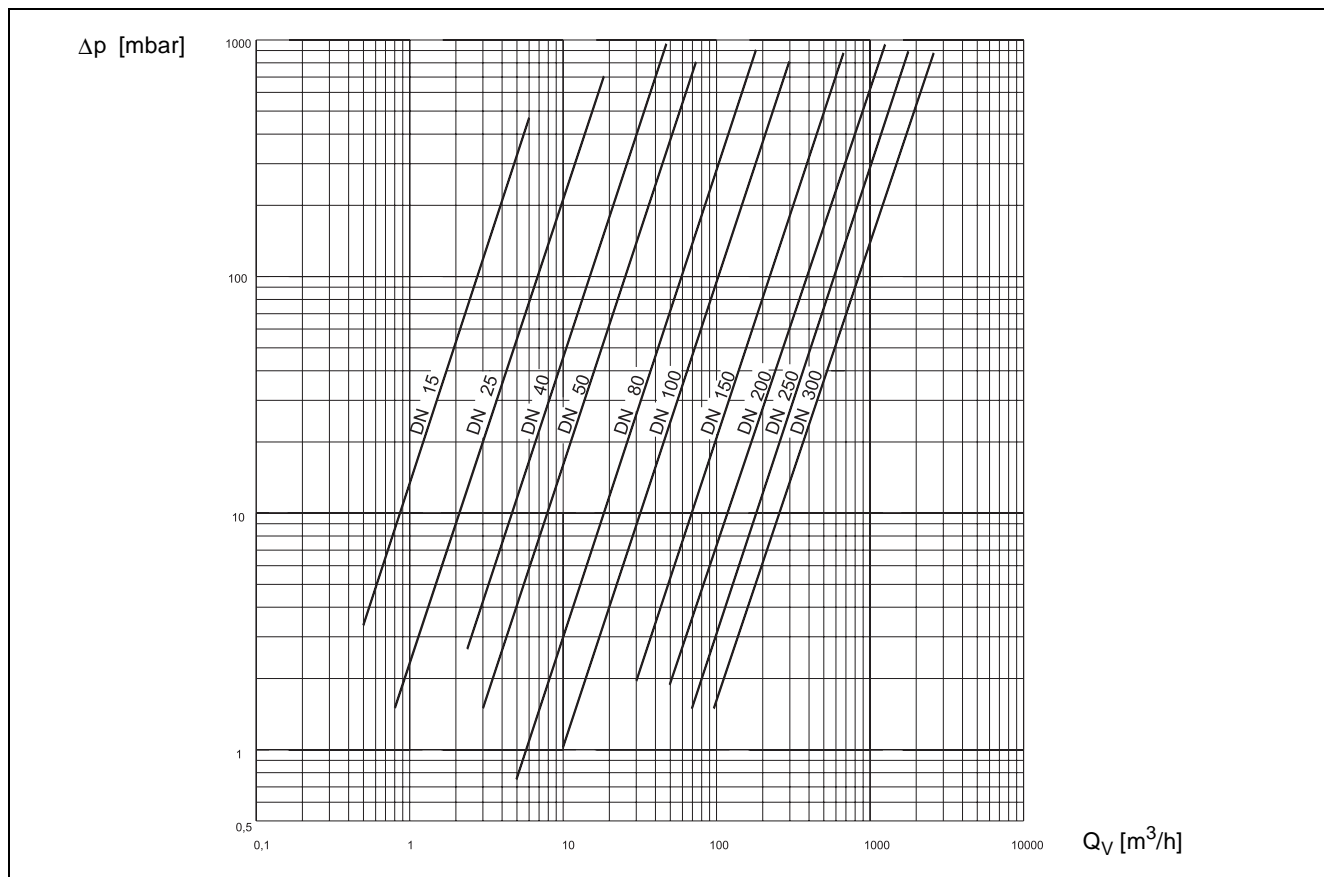

Fig. 6 Pressure drop, water (20 °C, 1013 mbar, ρ = 998 kg/m³), DIN
See Fig. 6 for water (20 °C, 1013 mbar, ρ = 998 kg/m³). For other liquid densities (ρ) use the following equation to calculate the pressure drop:
Δp = pressure drop water (from Fig. 6) [mbar]
2. Min. linear flow rate at 2 cSt, (from Fig. 6): Q_Vmin = 6 m³/h
Δp = air pressure drop (from Fig. 6) [mbar]